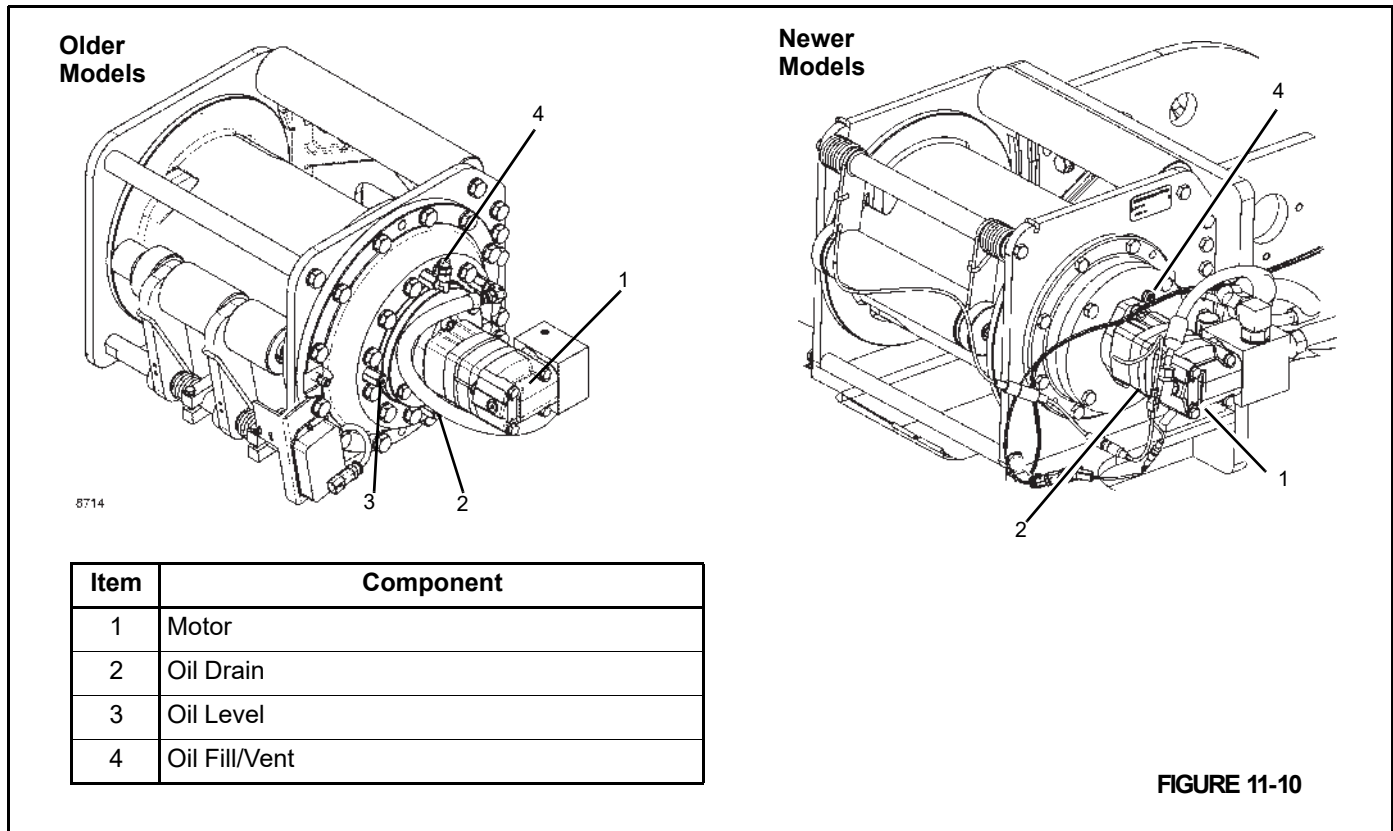

FIGURE 11-10
**NOTE:** See Figure 11-10 for item identification.